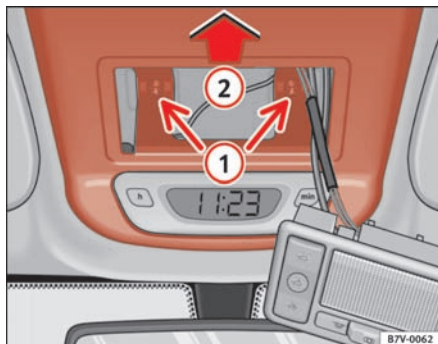

Fig. 69 Manual release
- Invert the screwdriver head and undo the two Philips screws ① ⇒ fig. 69.
- Move the cover in the direction of the arrow ② and remove ⇒ fig. 69.